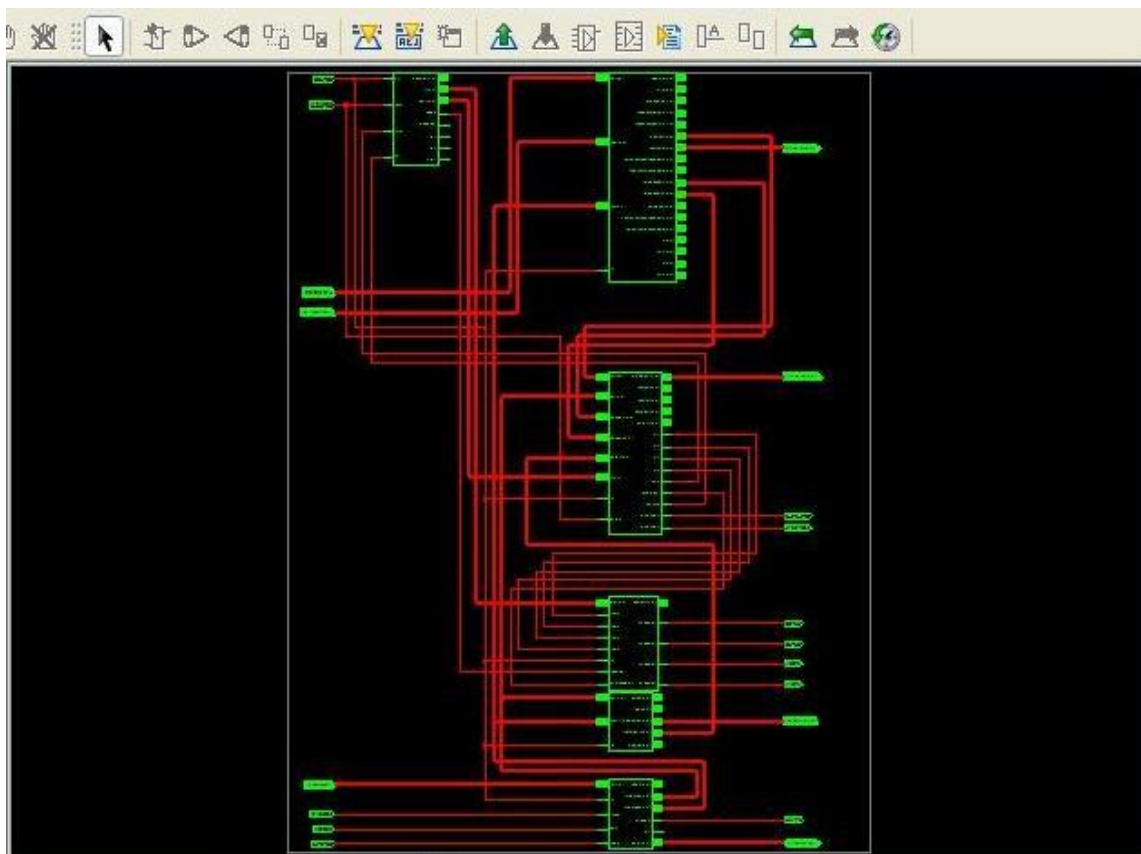

Fig 3.20: RTL Schematic
1. In order to view Schematic of the design, select the top module of the project. Double click on the **View RTL Schematic** under **Synthesize-XST** of **Processes** tab. It emerges into a new window like in the Fig 3.20.